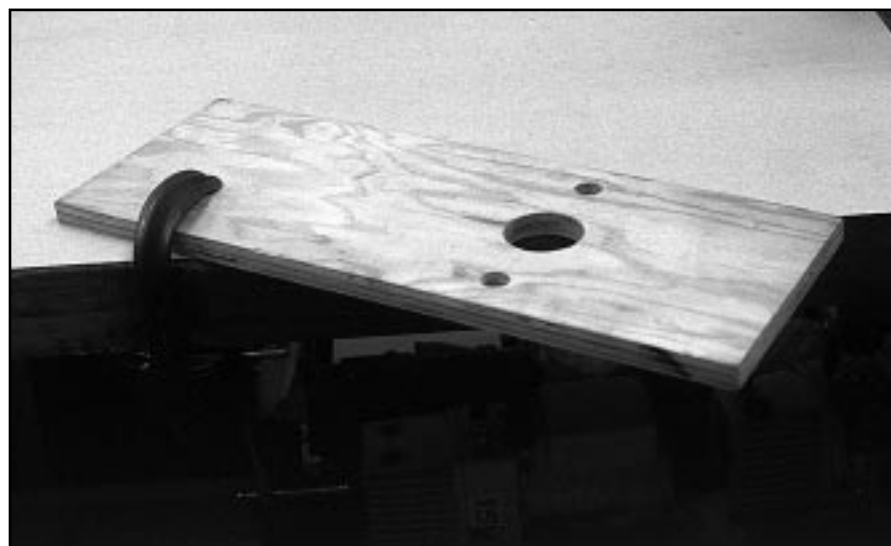

Figure 1 - Typical Fixture Made with Wood
A simple fixture constructed from wood 2x4 section (or similar) as illustrated in **Figure 1** may be very helpful.
7. Remove the ten hex head screws (68) and washers (67) which hold large end plate (66) to oil case (53), tap the upper corner of the large end plate with a mallet to break seal to the case. By means of the lock grip pliers, attached to the lower rib of the end plate casting, and the intake connection, lift the pump mechanism from the case. Set pump on work bench with the valves and intake connection up.
large end plate (66) down and the intake connection (46) to the far left corner, (see **Figure 1**). Remove the three fillister head screws (12) and shaft end cap (27). Remove four remaining hex head cap screws (24) and washer (23) from the end plate (29) and turn plate to break suction and lift off.
10. Turn the exhaust stator ring (30) to break suction. In lifting it off, hold the vanes (33) together with the fingers to prevent scratching the vanes, stator or center plate.
11. Remove the two vanes (33), two vane springs (32) and slide spring holder pin (34) through rotor end shaft. Because of the suction of the oil film, it is necessary to use a rotor puller to remove the rotor (31). Other methods may damage the surfaces on edges. Remove the two rotor keys (62).
12. Remove the two socket head screws (19) and lift off the two center plates (17). This exposes the intake stage.
13. Remove the two remaining cap screws (44) and washers (23) from underneath the end plate.
14. Lift the intake stator (10) slightly off the end plate to break the oil film. Use **caution: sharp corners may cause injury**
Use simple assembly fixture to insure proper alignment of key parts. **Figure 1** shows a typical fixture made of wood.